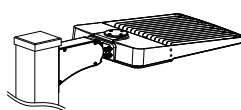

Figure 2-3
- Step3: Fasten the pole cover to the pole after making sure the wires are connected correctly, Figure 2-3;